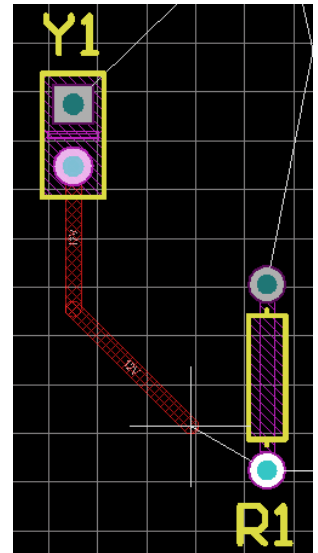

Figure 7. Cursor following streamlines the manual routing process.
5. Move the cursor towards the bottom pad of the resistor R1. Note how track segments are displayed in a check pattern, following your cursor path (Figure 7). The check pattern indicates that they have not been committed (placed). If you pull your cursor back along the path, the uncommitted routing 'unwinds' also. You have two choices with routing here: